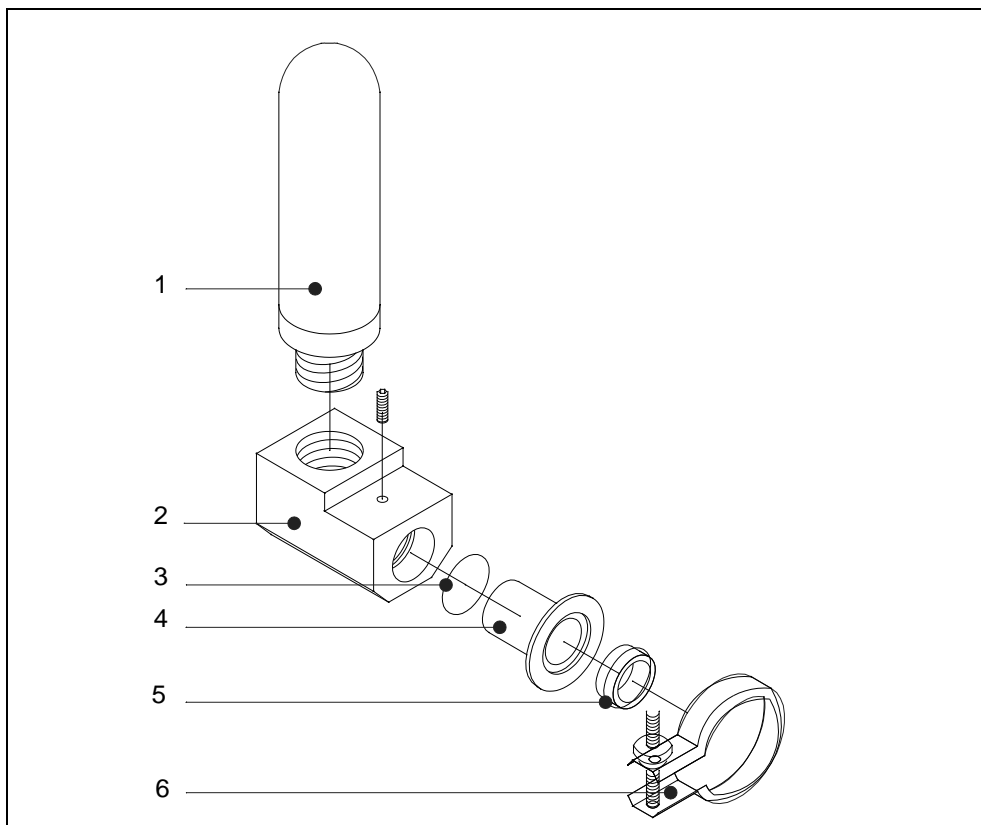

Fig. 9-3 Replacing the silencer
- Unscrew the silencer from the connection adapter and replace it by the new silencer and tighten it. For this refer to Fig. 9-3/1.